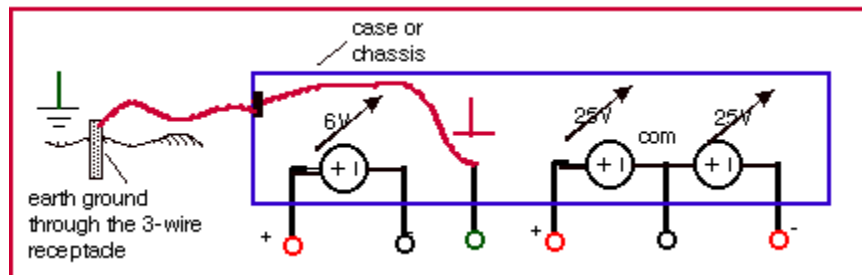

Figure 5: Simplified view of the triple output power supply
Lets look at the power supply in the constant-voltage (CV) mode. A CV power supply can be considered to be a "near-ideal" battery with a very low internal resistance. As explained in the section above, its voltage will remain constant if its current rating (set to I_s by the user) is not exceeded. Figure 5 illustrates this view of the power supply. Note that the ground terminal (^) is isolated from the battery and is connected to the chassis (or case) ground, which is also connected to the earth ground through the 3-wire receptacle. The +25V and -25V supplies' outputs have a common output terminal (denoted by "com") which is isolated from the case or chassis ground. The positive or negative terminals of each output can be grounded or each output can be left floating with respect to the ground (must be kept within +/-240V from the chassis ground).